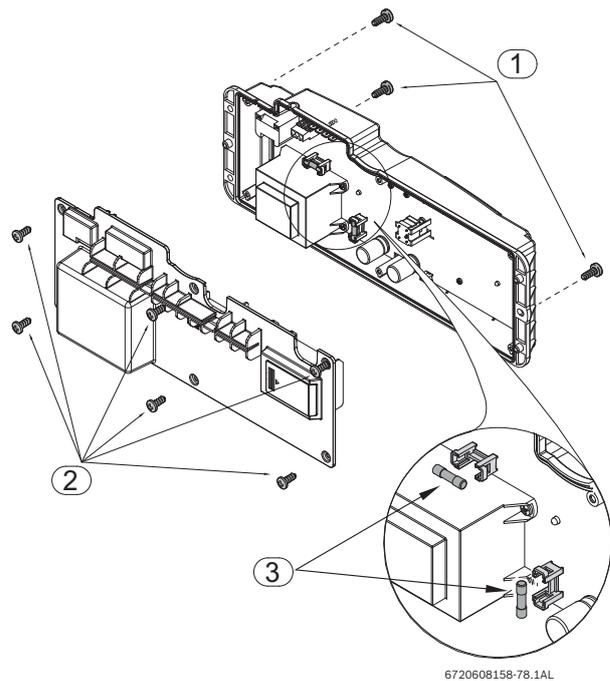

Fig. 47 Fuses position
- ▶ Remove the six screws from the back cover of the control unit, see Fig. 47, pos. 2.
- ▶ Check the fuses in the printed circuit board, see Fig. 47, pos. 3.